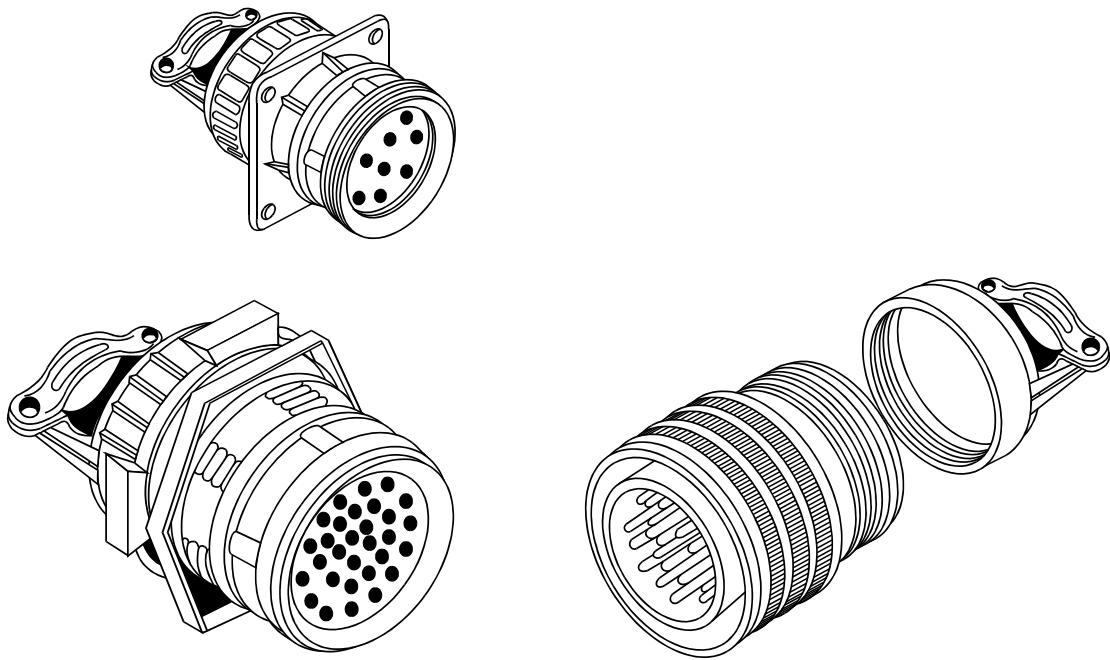

Figure 17-4 Various Connectors
32. **Connector Damage.** Electrical connectors form the link between the component and aircraft system. Whenever an aircraft component is removed or installed the electrical connector should be inspected. This inspection allows for the early detection of deteriorating components or even the cause of system failure. Examples of various electrical connectors are shown in Figure 17-4